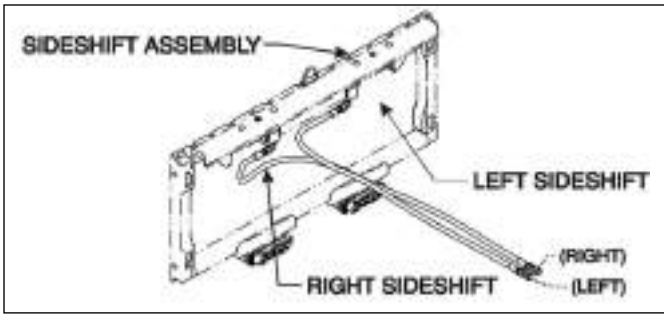
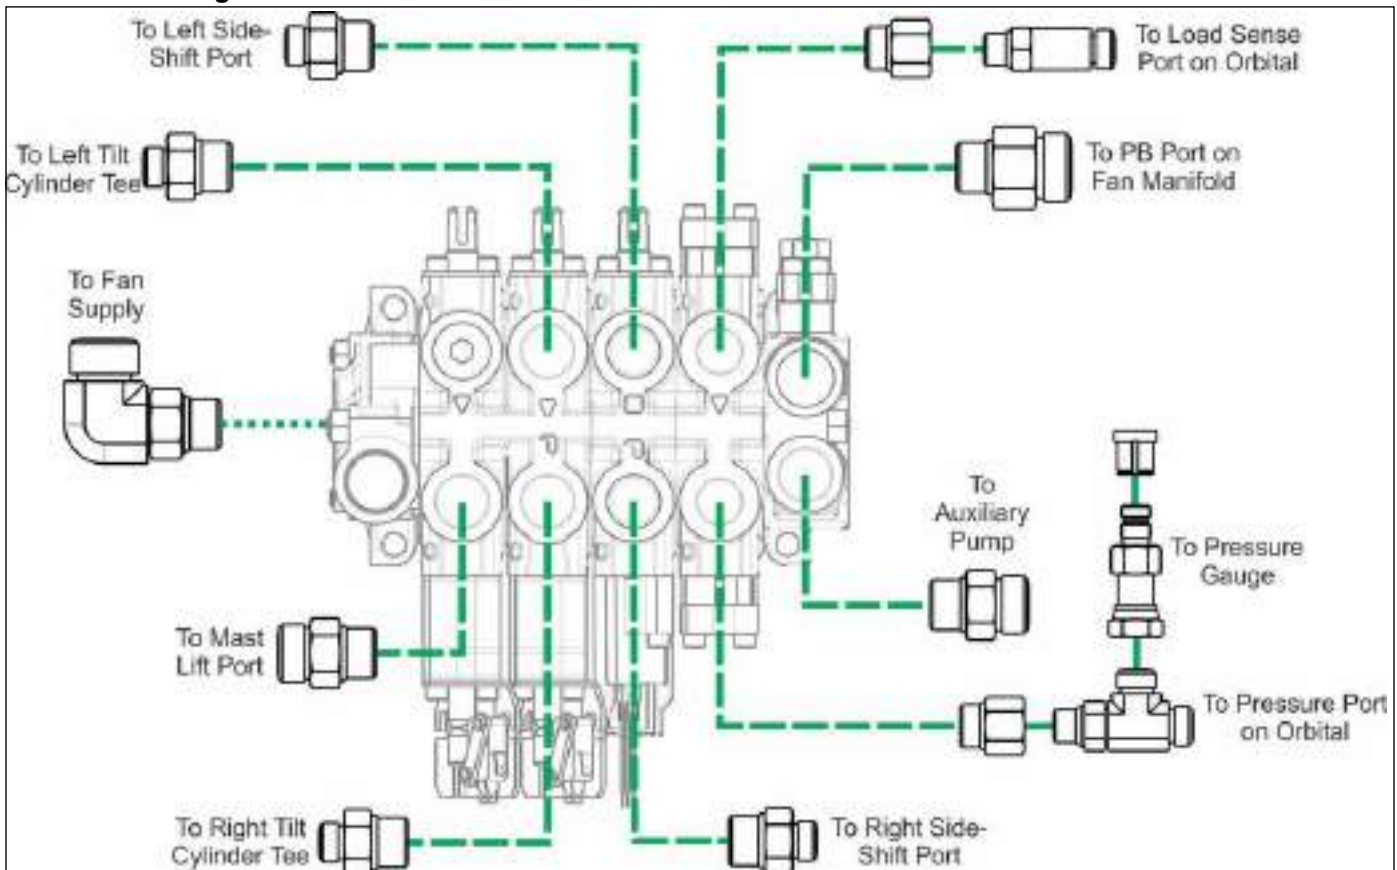

Figure 3-3: Side Shifter
Figure 3-4: Hydraulic Control Valve Assembly
7. Disconnect the two hydraulic hoses (**Left** and **Right**) at the side shift cylinder. **See Figure 3-3.** The hoses feed back to the hydraulic control valve should they require replacement. **See Figure 3-4.**